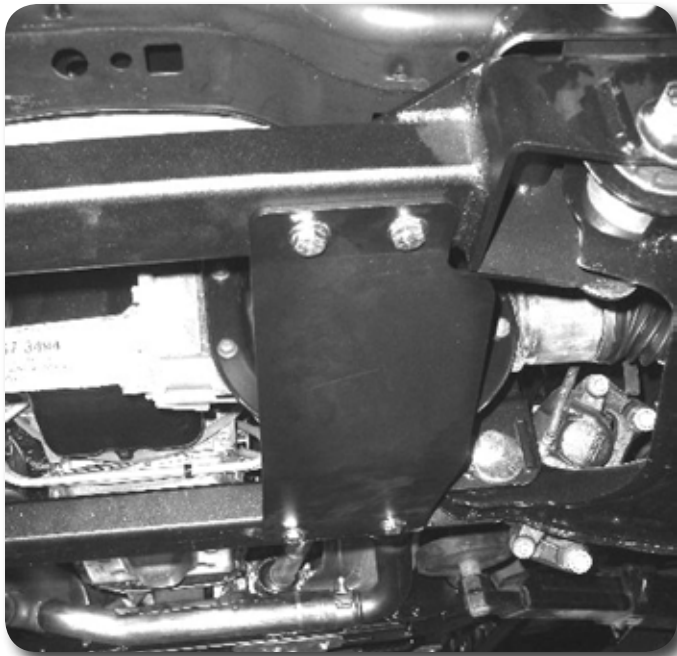

Figure 28
46. Install the provided differential skid plate to the front and rear crossmembers with ½" x 1-1/4" bolts with Loc-tite and ½" SAE washers (BP #776) into the weld nuts in the crossmembers (Figure 28). Torque to 65 ft-lbs.